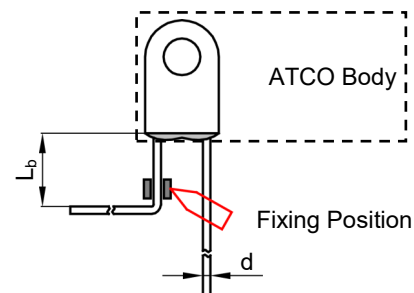

FIGURE SK-2
2. When bending leads, please use pincher or similar tools to fix the product as shown in Fig.SK-2, to avoid damaging the product.